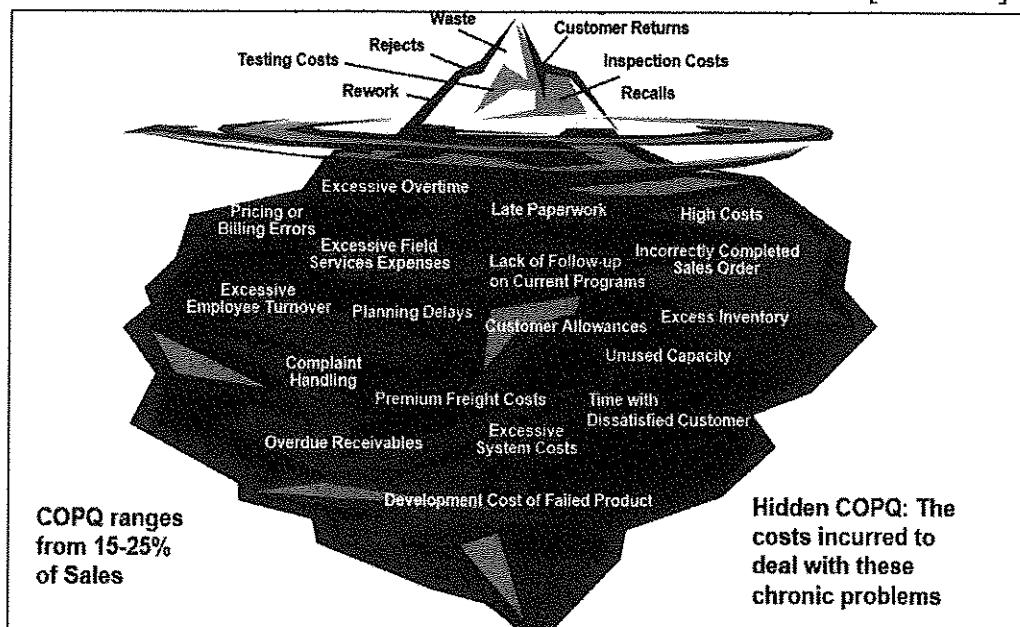

Figure 3(iii) / Rajah 3(iii)
- i. List **THREE (3)** external failure cost activities and **THREE (3)** internal failure cost activities in Figure 3(iii).
*Senaraikan dengan jelas **TIGA (3)** aktiviti kos kegagalan luaran dan **TIGA (3)** aktiviti kos kegagalan dalam yang terdapat dalam Rajah 3(iii).*
- ii. Relate the relationship occurred between Figure 3(iii) in visible and invisible Cost of Poor Quality (CoPQ).